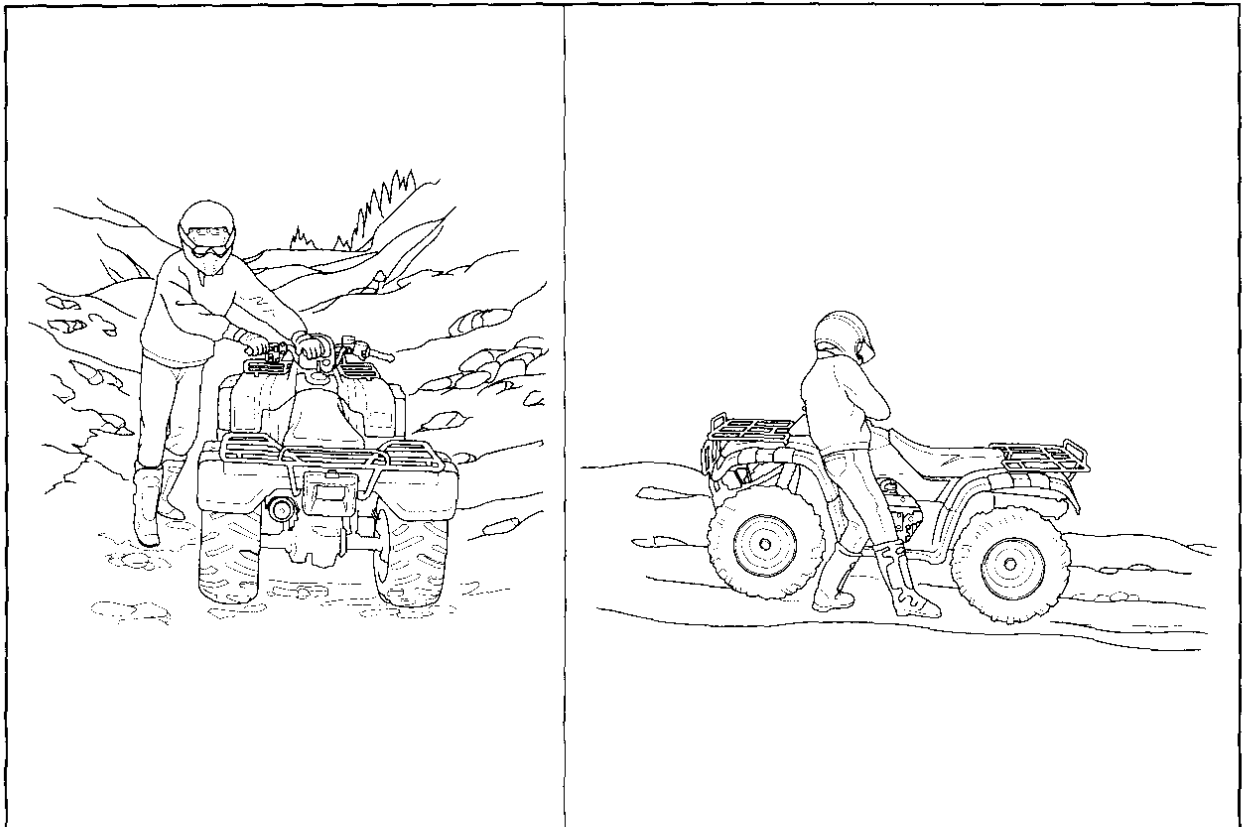

Fig. 3-16 Be sure your legs are clear of the wheels.
1. Stand with your body facing downhill, beside the vehicle so you can reach the rear brake lever with your right hand (see Figure 3-16).